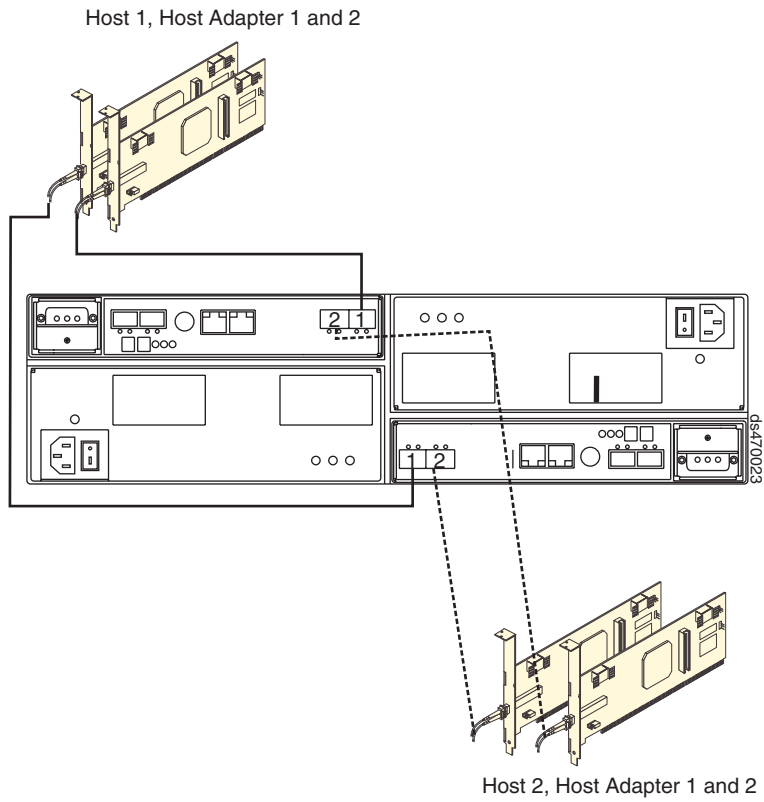
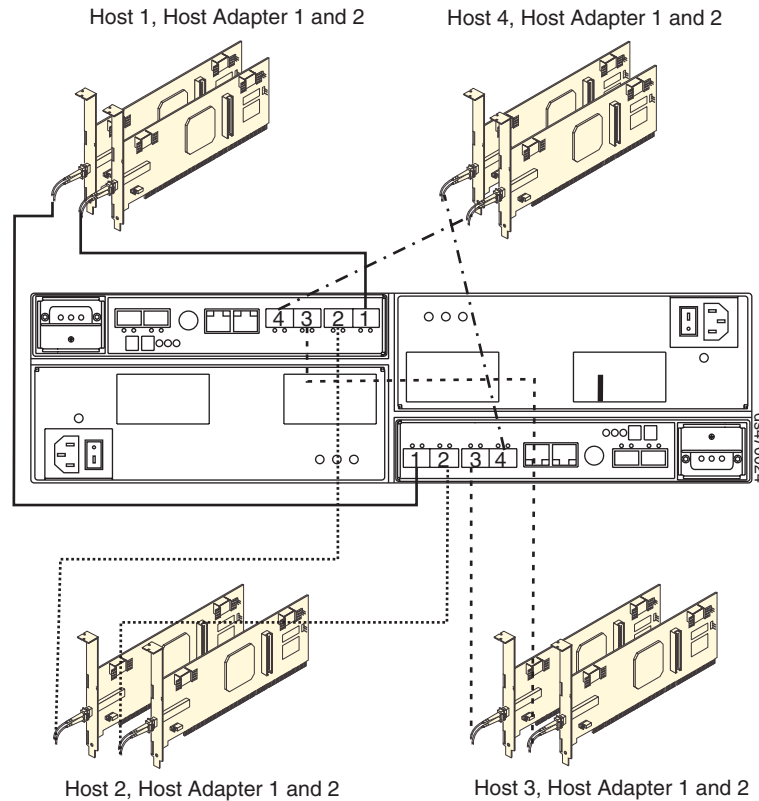

Figure 84. Cabling diagram for two redundant host connections
Figure 85. Cabling diagram for four redundant host connections
- Repeat steps 1 on page 102 and 2 for each additional redundant host connection. You can create a maximum of two redundant host connections for the DS4700 Express Storage Subsystem model 70, as shown in Figure 84 on page 104, or a maximum of four redundant host connections for the DS4700 Express Storage Subsystem model 72, as shown in Figure 85 on page 105.
Note: Figure 85 on page 105 shows a connection to a fibre channel host bus adapter in the DS4700 Express Storage Subsystem. You can also connect to fibre channel switch ports (not shown).